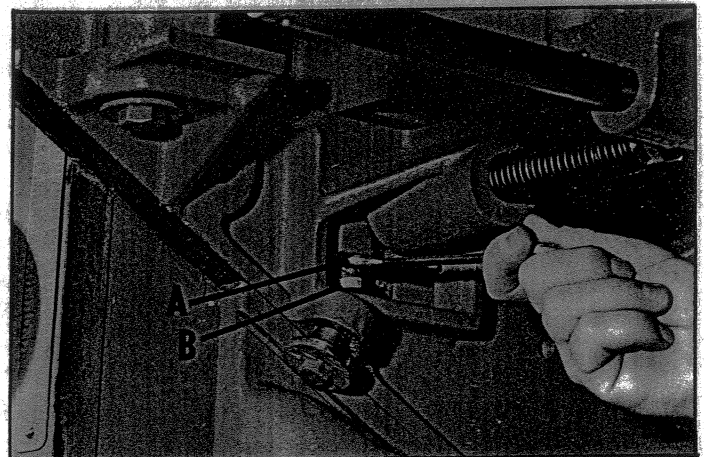

Fig. 6
8. Loosen locknuts (A) Fig. 6, and back out the four square head screws (B) under bed roll bearing housings until the bed rolls are below the surface of the bed.